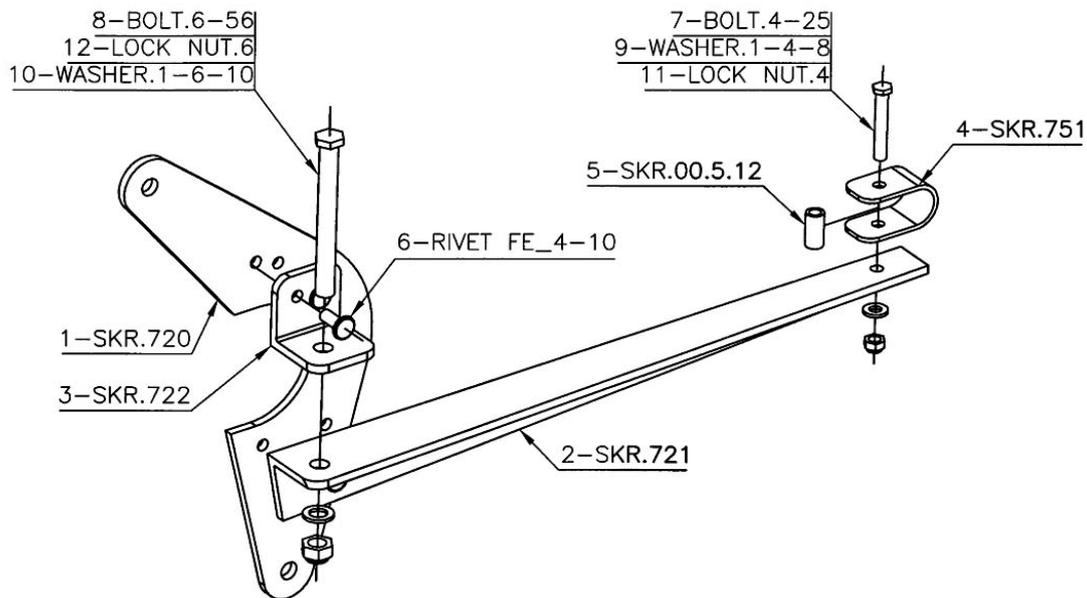

Figure 155; aileron horn parts.
The saddle washers shown in Figure 155 over which the tensioning tube fits often foul the edge of the rear spar attachment bracket on the fuselage. It is worth filing 2-3mm off the side closest to the wing root before the saddle washer is fitted to the spar.
- k) Put the braces back in their correct positions and secure the trailing edge with a 4mm bolt passing through the thin sheet aluminium U-piece, the spacer tube and the lower brace, the sequence shown in Figure 155.